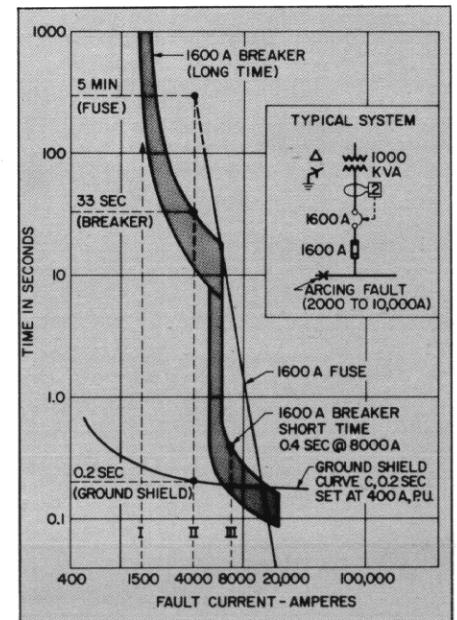

Figure 13—Ground-Shield System Coordination Curves
The basic need for ground-fault protection in low-voltage systems is illustrated in Figure 13. Shown is a 1000 kVA service transformer with a 1600-ampere main breaker (with typical long-time and short-time characteristics) and fuse. A 1500A ground fault (Point I) on the 480Y/277 grounded neutral system would not be detected by this breaker. A 4000A ground
fault (Point II) could persist for about 33 seconds even if the minimum long-time band were used. An 8,000 ampere ground fault (Point III) would be cleared within about .2 to .4 seconds by the short-time device, assuming it is present, otherwise, between 8 to 20 seconds would elapse before the fault is cleared. For the assumed 8,000A fault, even though the current values are the calculated result using all source, circuit and arc impedances, the actual RMS current values passing through the circuit breaker can be considerably lower. This is because of the spasmodic nature of the fault caused by (1) arc elongating blow-out effects, (2) physical flexing of cables and some bus structures due to mechanical stresses, (3) self-clearing attempts and arc re-ignition, and (4) shifting of the arc terminals from point to point on the grounded enclosure (as well as on the faulted conductors for non-insulated construction). All of these effects tend to reduce the RMS value of fault currents. Figure 13 also illustrates that a ground fault which would normally produce 8,000A under stabilized conditions and which results in an effective value of only 4000A (Point II) would have a max. clearing time of 33 seconds instead of the normally expected max. of .4 seconds.
Other fault interrupting devices such as fuses (Note from Figure 13 that a 1600A fuse takes 5 minutes to clear a 4000A fault) which have far slower operating times as low fault currents, have even a greater need for supplementary ground-fault protection. Most of these devices have time-current characteristics which delay tripping for about 100 seconds for fault currents 200% to 300% of normal continuous-current rating.